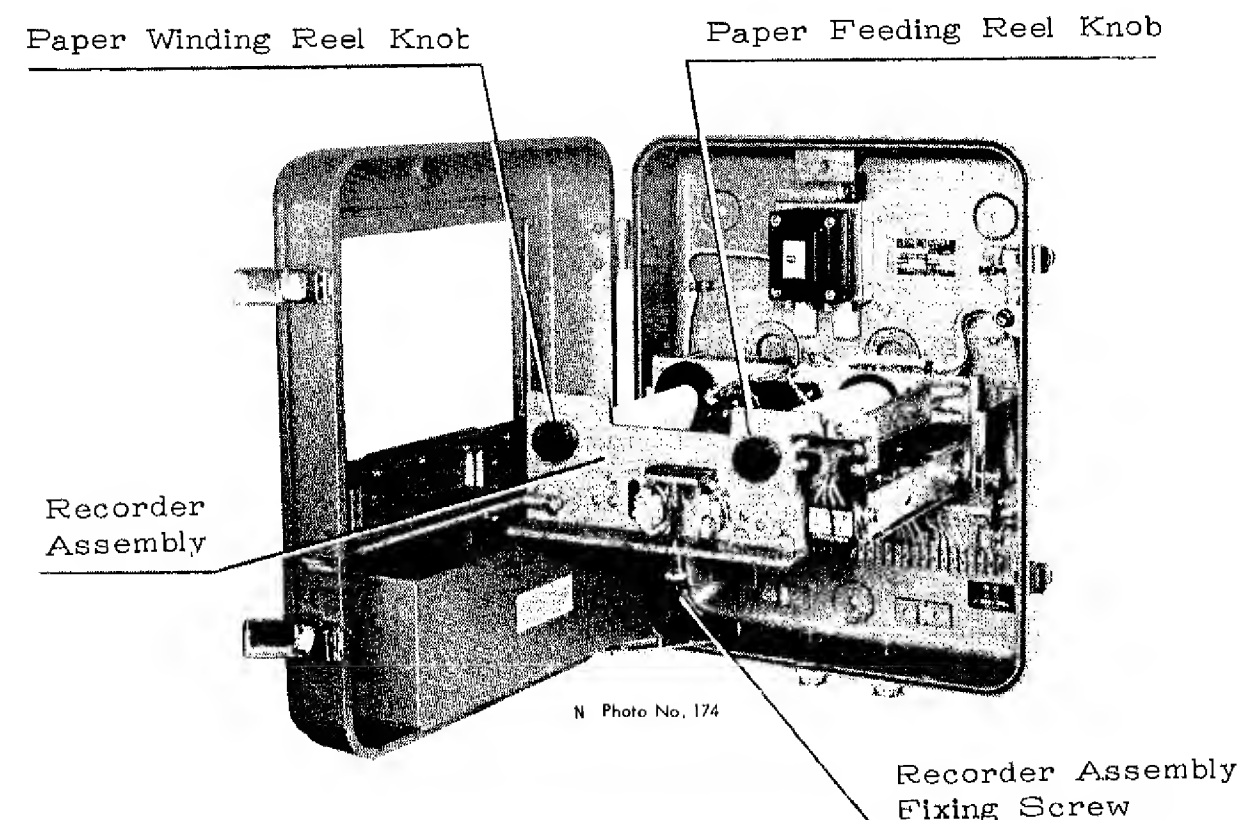

Fig.2-4 Recorder with Recorder Assembly swung down
5. Loosen the recorder assembly fixing screw and swing down the recorder assembly by holding the fixing screw. See Fig. 2-4.
6. Take out the paper winding reel with used paper at the same time pulling the paper winding reel knob to the outside (ref. Fig.2-4 and 2-5), and wind out the remaining part of the paper, also remove the empty paper feeding reel in the same manner(ref. Fig.2-6).